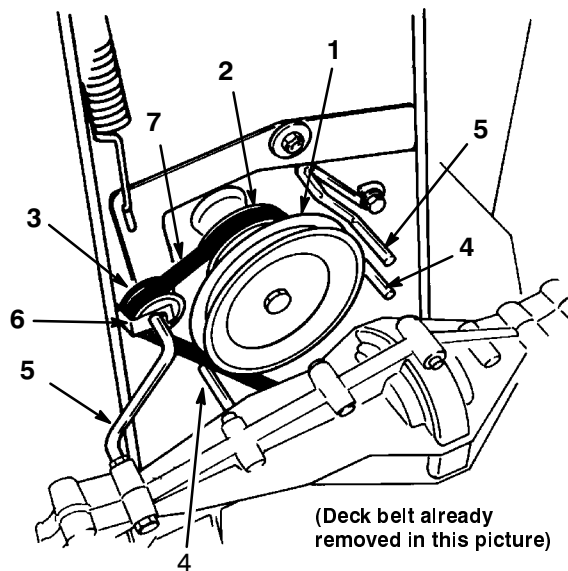

Figure 39
2. Remove the belt guides from the transaxle pulley (Fig. 39). Loosen the belt guides at the engine pulley and rotate them out of the way. Loosen the lock nut and remove the belt retainer from the idler pulley.
4. Remove the drive belt (Fig. 39). Inspect the belt for damage or wear.